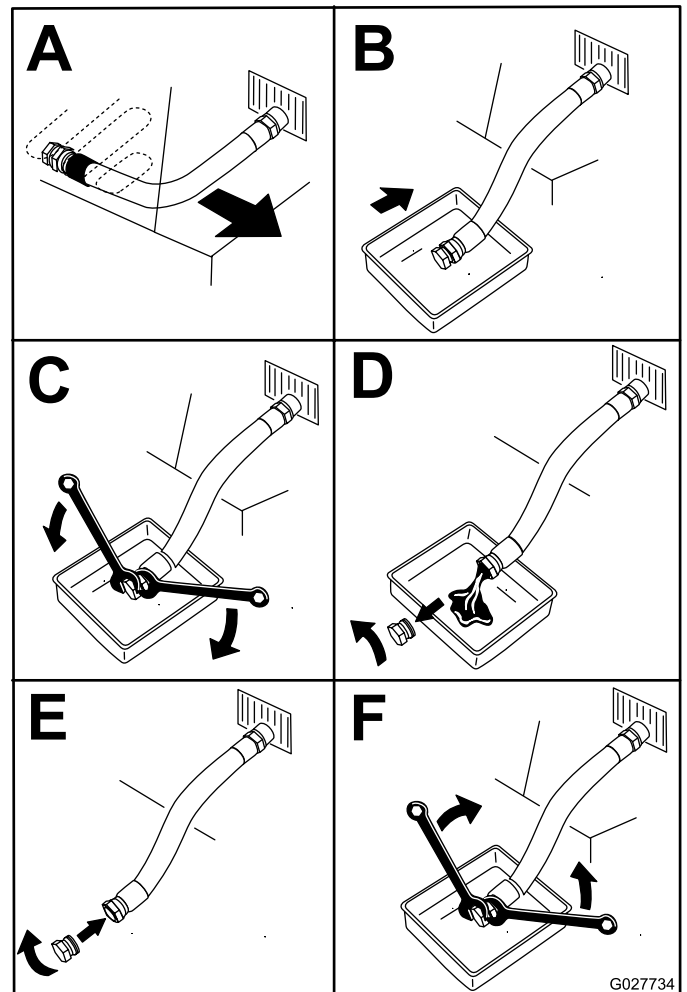

Figure 68
- Drain the oil from the engine (Figure 68).